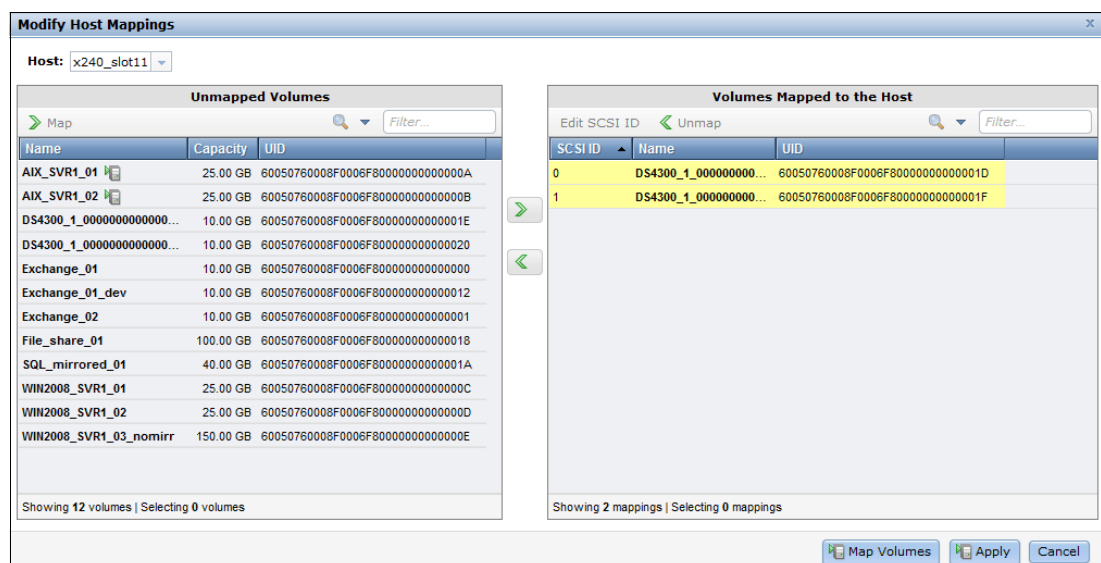

Figure 7-30 Modify Host Mappings
- ▶ Figure 7-30 shows all unmapped volumes that can be mapped to the host. The volume we right-clicked in the first step now appears in the right-side of the window and is ready to be mapped.